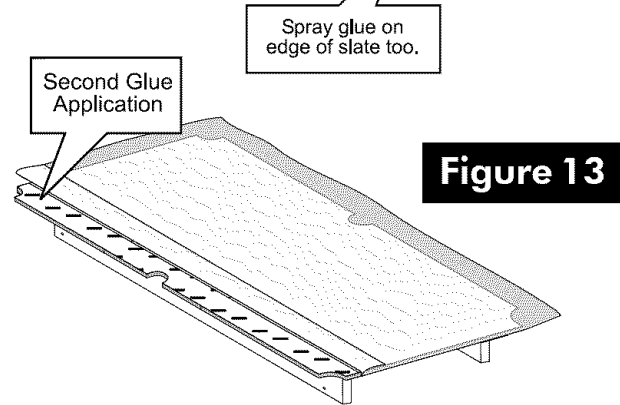

Figure 13
26. Fold cloth away from side to expose slate/slatron for your second glue application. (See figure 13). Apply cement to the side in the same manner as your first glue application. Allow cement to become tacky, wait at least one minute.